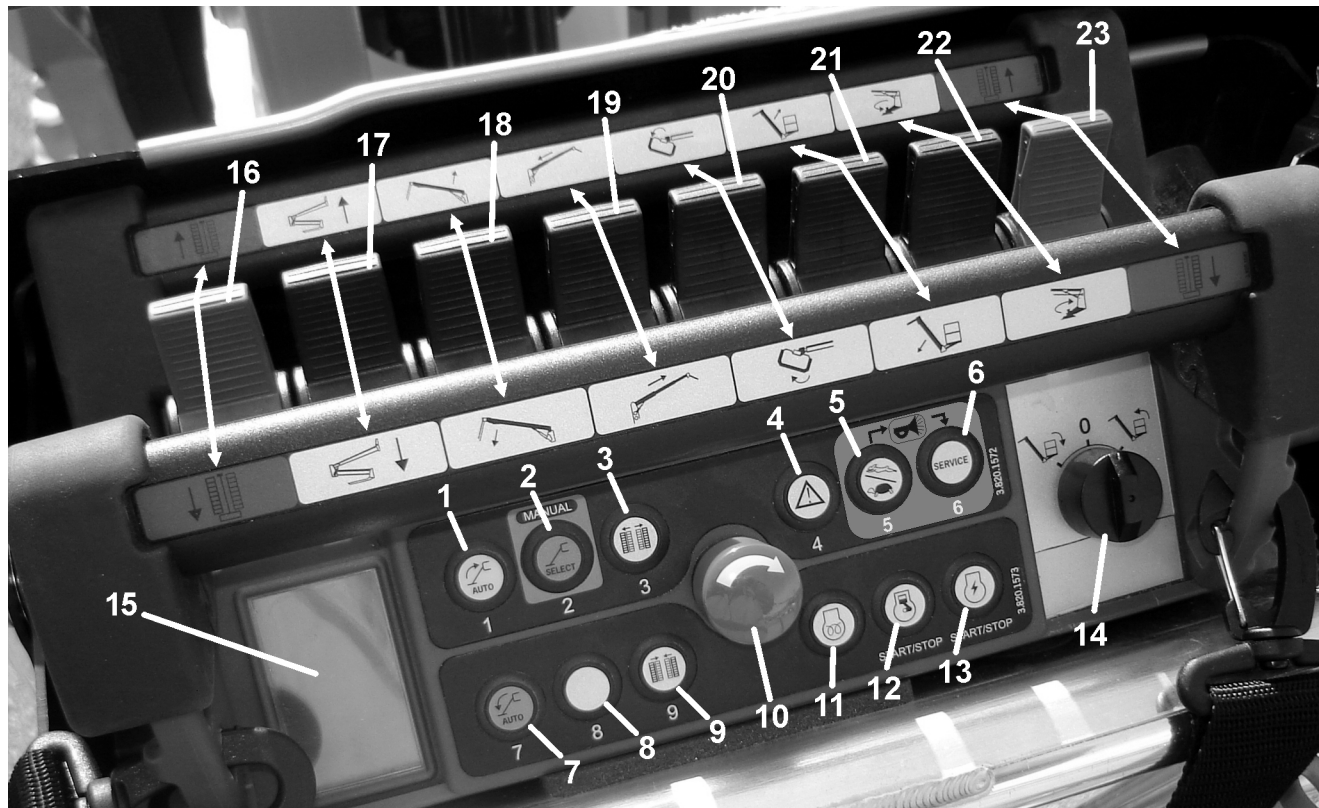

Figure 4-6. Platform/Remote Control Box
(Reference Figure 4-6. on page 4-23 for item number location)
Platform Level Adjustment (Item 14, Figure 4-6.)
Raise And Lower The Tower Boom *(Item 17, Figure 4-6.)*
Raise And Lower The Main Boom *(Item 18, Figure 4-6.)*
Telescope The Main Boom *(Item 19, Figure 4-6.)*
Platform Rotation *(Item 20, Figure 4-6.)*
Raise And Lower The Jib *(Item 21, Figure 4-6.)*
Swinging The Boom *(Item 22, Figure 4-6.)*
3. Push and hold down button 4 (*item 4*) on the platform/remote control box. The LCD display will show the symbol shown on button 4 in position 8 on the LCD display. (*Items 4 and 15, Figure 4-6.*)
4. Select a boom function to operate by moving the paddle controller in the direction for lowering - (*items 18, and 21 in Figure 4-6.*)